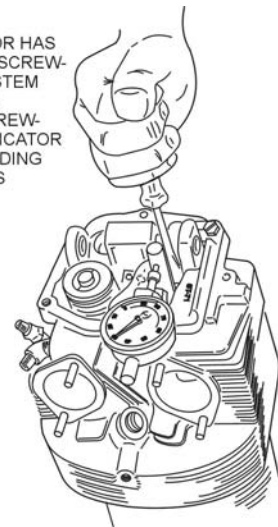

Figure 10. Pushing Valve Stem and Adapter Post Toward Dial Indicator to Establish Valve Guide Condition
5. Insert the screwdriver between the fixture and valve spring on the opposite side and push the valve spring toward the dial indicator as shown in Figure 10. Relax the screwdriver and record the reading on the dial indicator. The measurement should be within the limits specified in the table with PART 1. If not, perform the required repair procedure as described in PART 1.
There must be no tool deflection when valve is pushed against the dial indicator to determine the wobble. (Refer to Figure 10.)